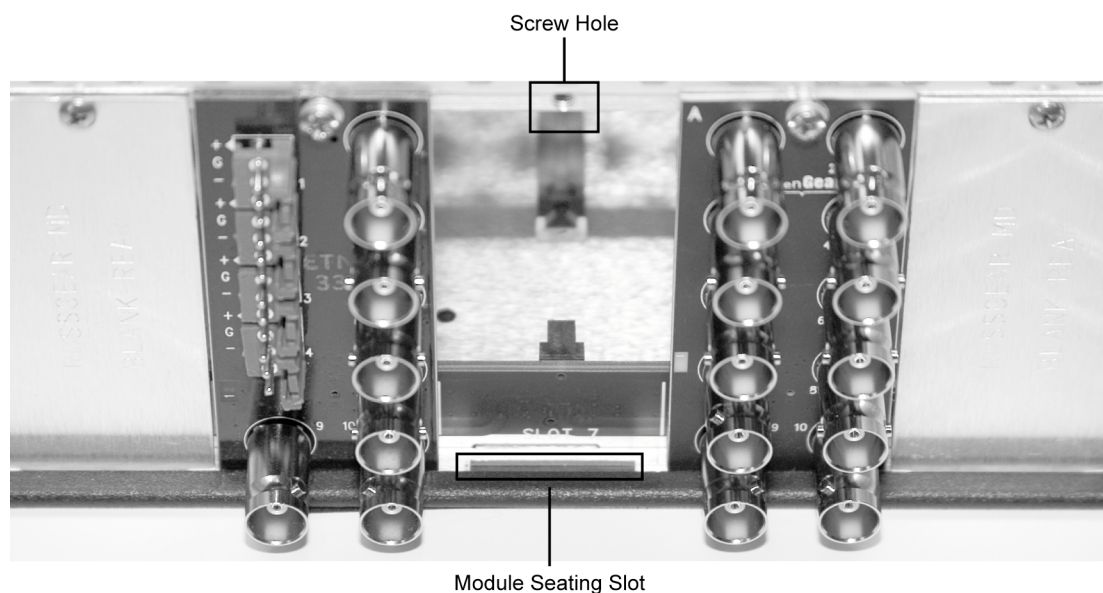

Figure 3. Rear Module Installation
4. As shown in **Figure 3**, seat the bottom of the rear module in the seating slot at the base of the frame's back plane.